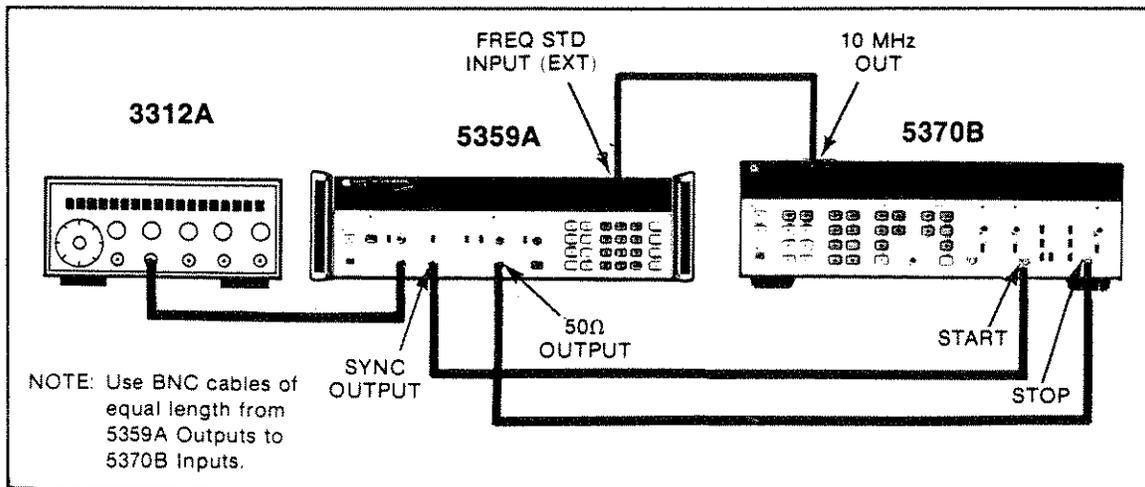

Figure 4-1. Setup for DELAY Performance Test
4. Connect the 5359A, 3312A and 5370B as shown in *Figure 4-1*.